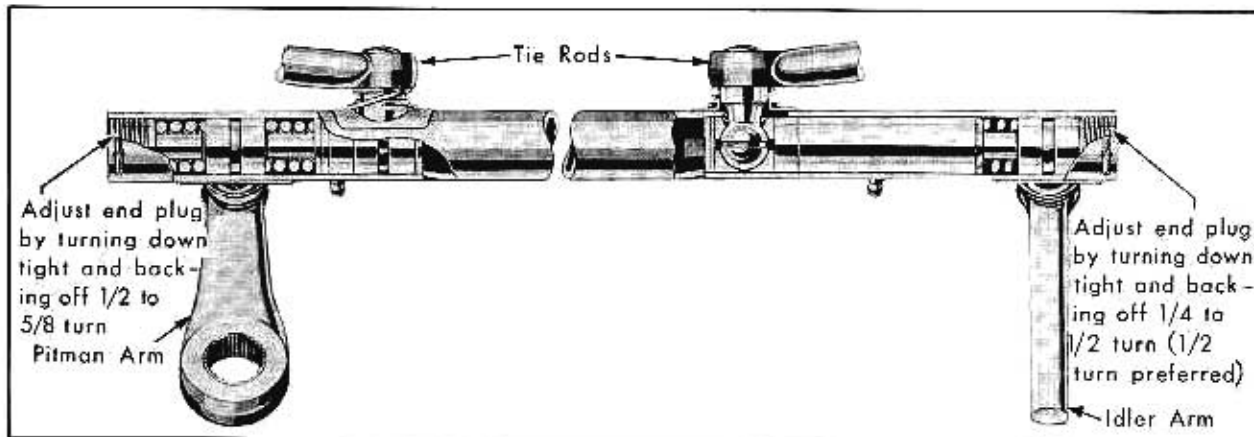

Fig. 7-16 Steering Connector Link
1. Remove cotter pin, adjusting plug, stop plug, spring, and ball seat from left end of steering connecting link to remove pitman arm from connecting link, Fig. 7-16.